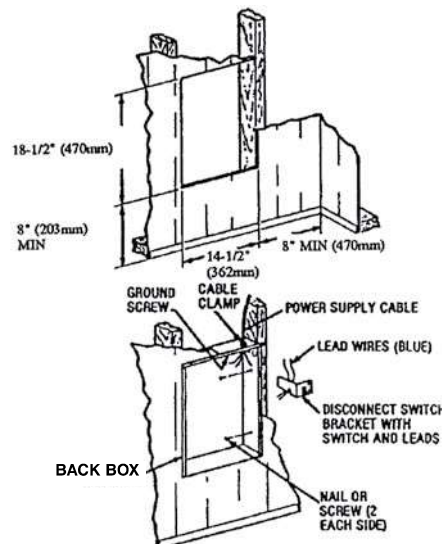

Fig. 2: Locating Recessed Back Box in Existing Construction
1. Provide a wall opening 14-1/2" (362 mm) wide by 18-1/2" (470 mm) high at the desired mounting height, but no closer than 8" (203 mm) to adjacent wall or floor. (See Figure 2.)